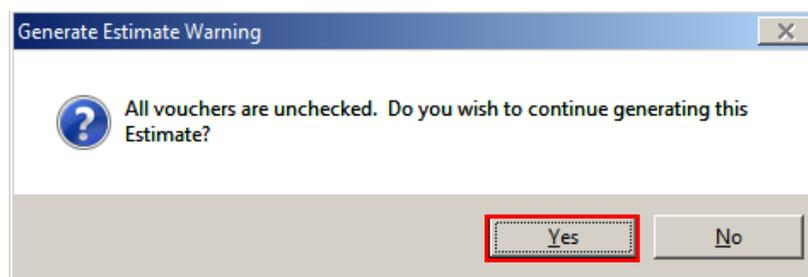

Figure 11-15. Generate Estimate Warning Window
- **Note:** If you are creating an estimate that does not contain any item postings (i.e., you are just charging days) a Generate Estimate Warning window opens (Figure 11-15). Click the **Yes** button.